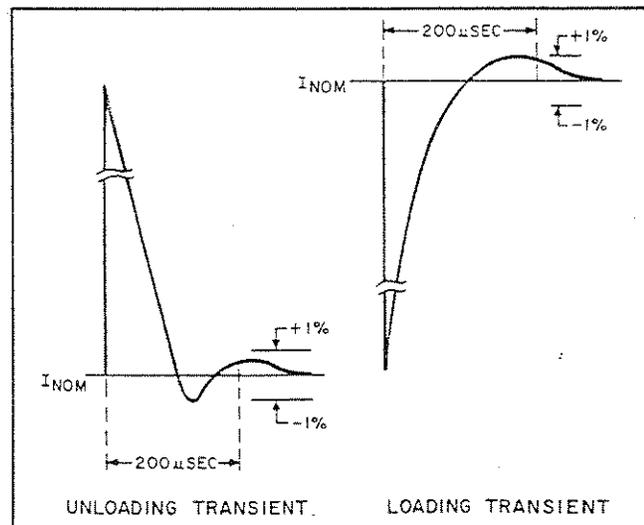

Figure 5-6. Load Transient Recovery Time, Waveforms
f. Adjust 25K potentiometer until a stable display is obtained on oscilloscope. Waveform should be within the tolerances shown in Figure 5-6. Output should return to within  $\pm 10\text{mV}$  (Model 6177B) or  $\pm 25\text{mV}$  (Model 6181B) of nominal value in less than 200 microseconds.